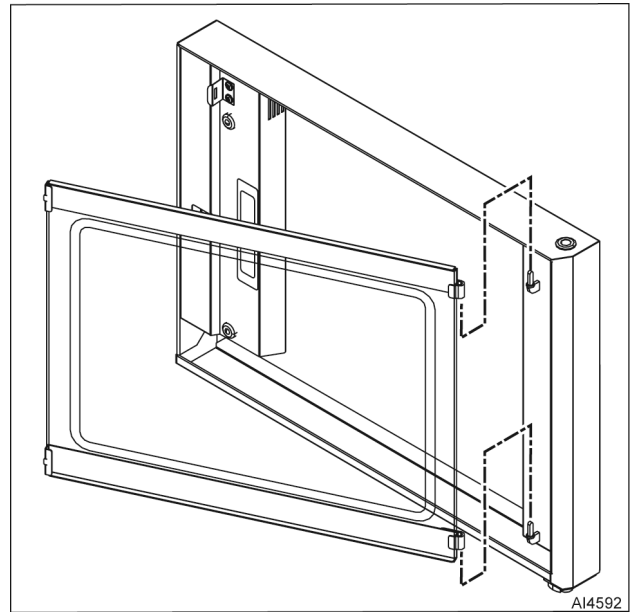

Fig. 38
2. Press on retaining clips and open inner glass door (Fig. 38).